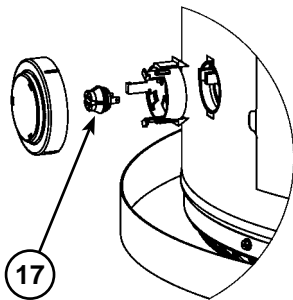

Figure 55
- 17 Flammable Vapour Sensor (under cover) (see Figure 8) (see also Figure 55)